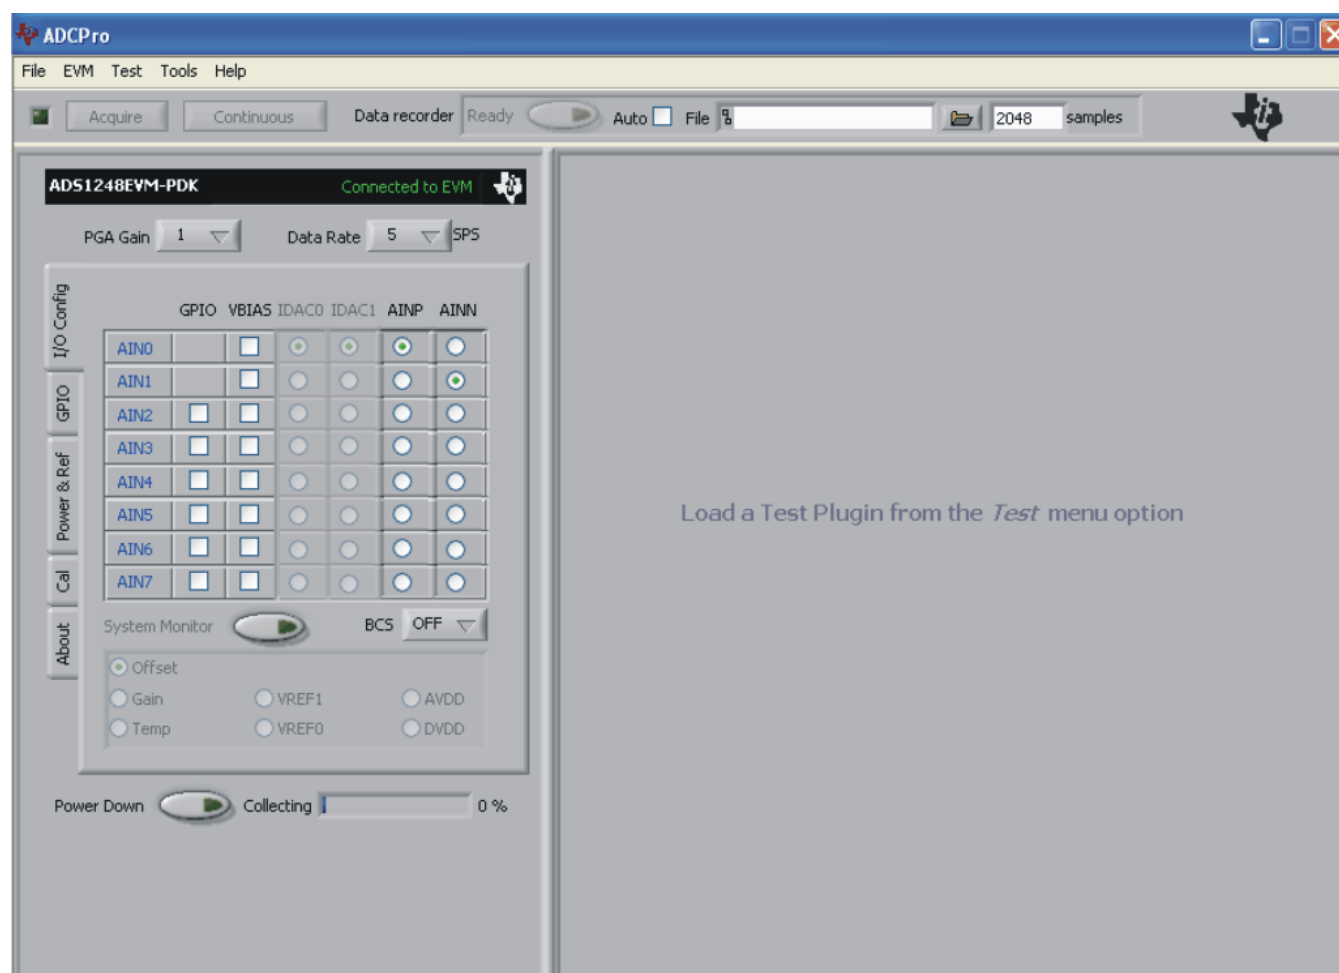

Figure 10. ADS1248EVM-PDK Plug-In Display Window
Step 2. Select *ADS1248EVM* from the EVM drop-down menu. The *ADS1248EVM-PDK* plug-in appears in the left pane, as shown in Figure 10.